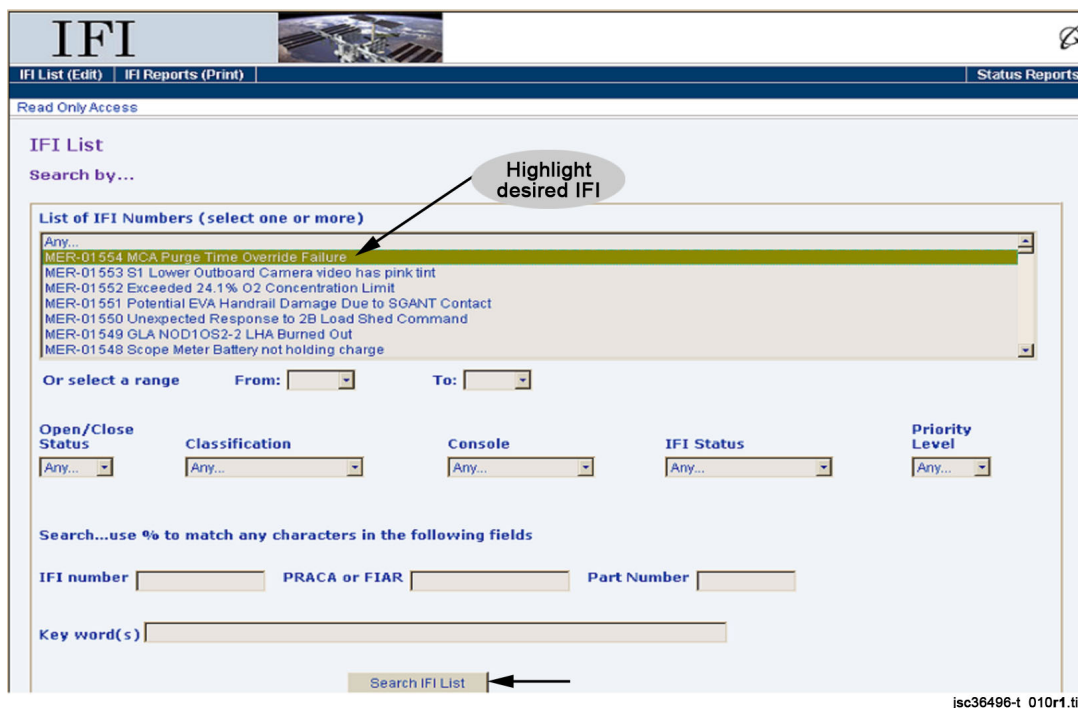

Figure 4-67. Searching IFI list
4. Highlight the desired IFI and click on **Search IFI List** (see Figure 4-67).